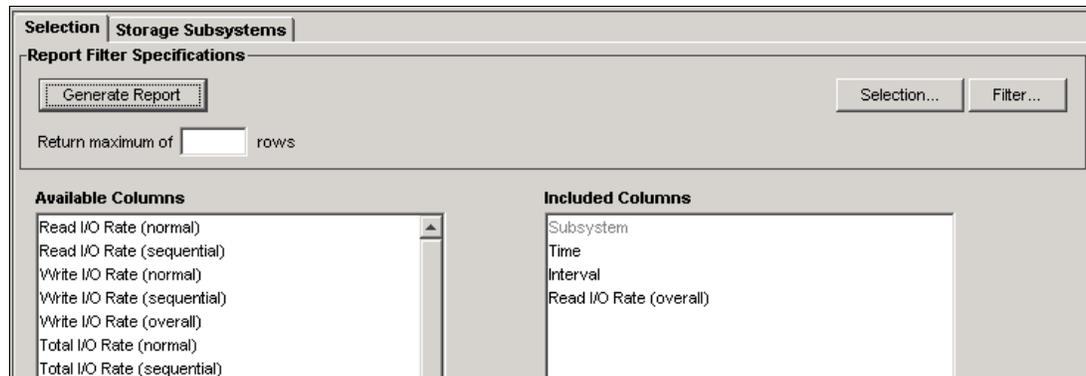

Figure 9-37 Selection of performance metrics
- In our example, we click the **Selection** tab because we want to generate a report that compares the overall read I/O rate of the DS5020 and the DS5300. Move to the Included column the performance metrics (Time, Interval and Overall Read I/O rate) you want to include in the report, as shown in Figure 9-37.